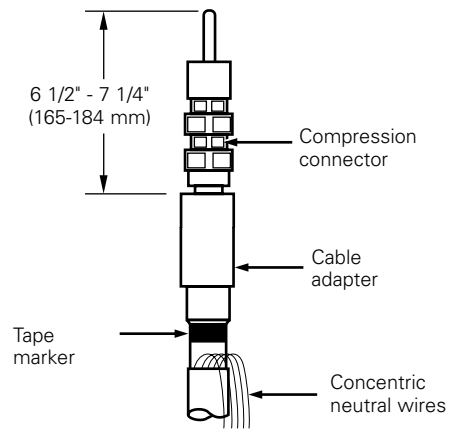

Figure 23. Line illustration for dimensional check.
- Length should be between 6 1/2" - 7 1/4" (165 - 184 mm). (Refer to Figure 23.)